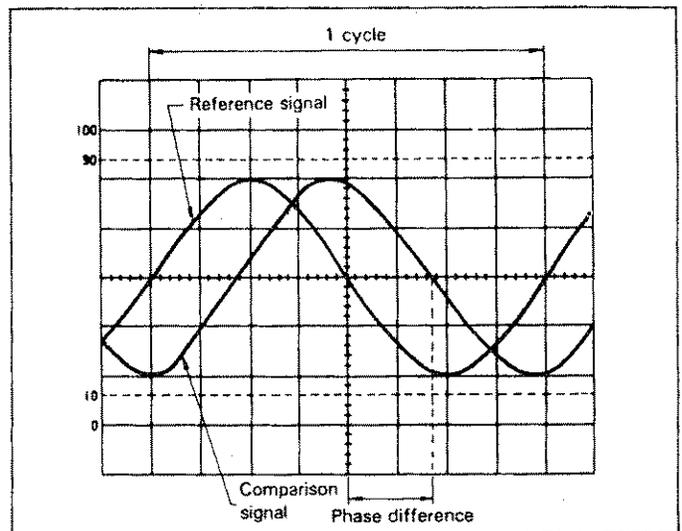

Fig. 15. Phase Difference Measurement.
(Refer to Fig. 15)
1. Apply the two signals to the **CH 1 (X)** and **CH 2 (Y)** input jacks.
3. Use the \updownarrow position controls to position the waveforms in the vertical center of the screen. Use the sweep **TIME/DIV** and **Var** controls to adjust the display so one cycle of the reference signal occupies 8 divisions horizontally (see Fig. 15). The **Trig Level** and $\leftarrow \rightarrow$ position controls are also useful in achieving this display. The display should be as shown in Fig. 15, where one division now represents 45° in phase.
For the example shown in Fig. 15, the horizontal distance is 1.7 divisions. Thus, the phase difference is calculated as follows: